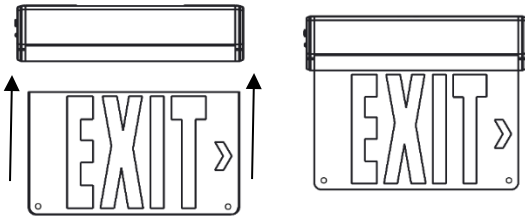

Fig 2
2. Insert EXIT panel into main body assembly gently. (Fig 2)